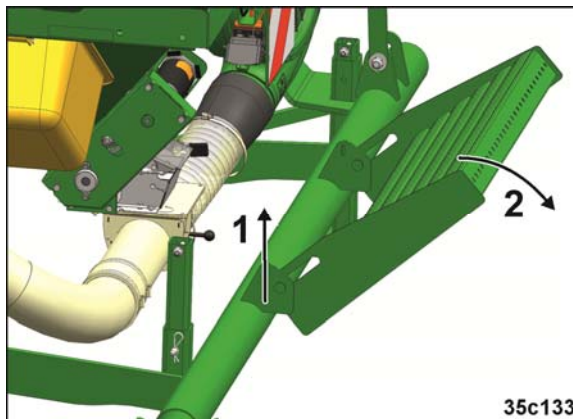

Fig. 67
1. Lift the step (Fig. 67/1) and fold down (Fig. 67/2). The front hopper can be loaded from a supply vehicle or from Big Bags.